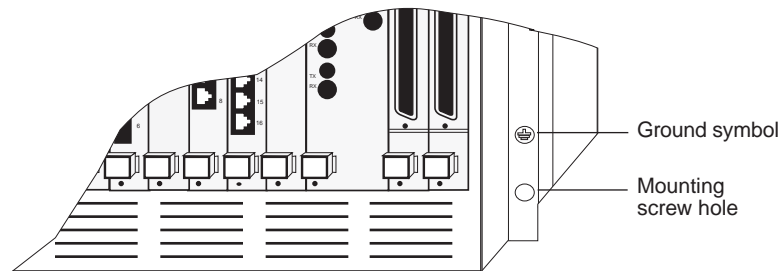

Figure 4 Ground Symbol for Static Discharge
- 1 Discharge yourself of static electricity by placing the ESD wrist strap on your wrist and clipping the alligator clip securely to the mounting screw located next to the black ground symbol on the system's right mounting bracket. See Figure 4. If your system does not have mounting brackets, touch the system's rear panel.